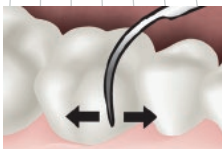

fig.1
- ✓ the tip must be applied tangentially on the part to be treated, and used over its entire active section (fig.1)